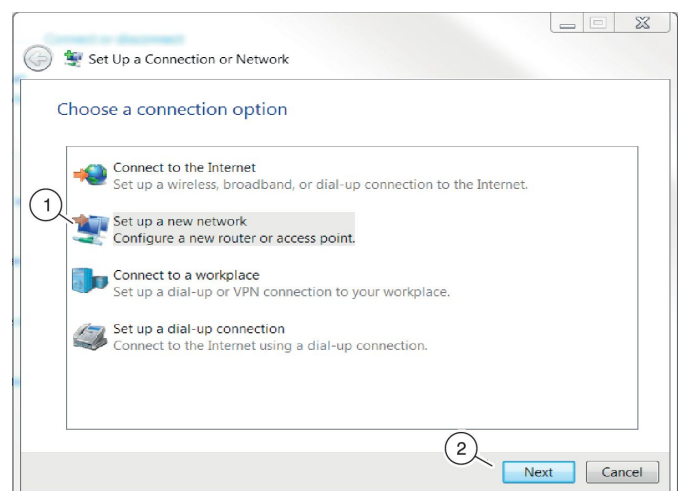

Fig. 51: Setting up a new network
3. ▶ Select 'Set up a new network' (Fig. 51 /1), then click 'Next' (Fig. 51 /2).